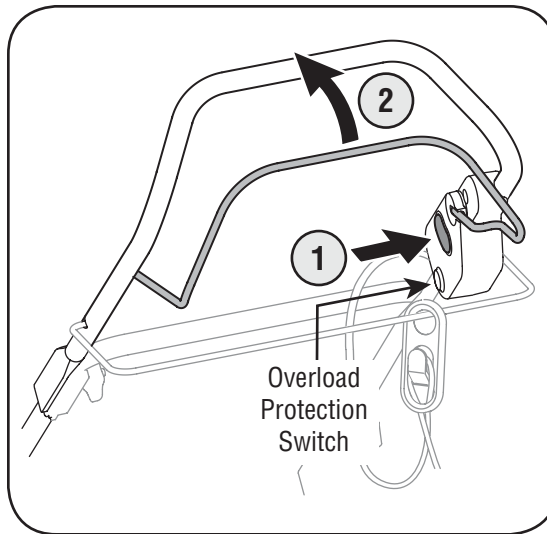

Figure 4-3
The mower is equipped with a overload protection switch, located on the motor/blade control. Refer to Figure 4-3. This overload protection switch may pop out when too much strain is placed on the motor. Refer to Maintenance Section to reset this switch.
3. Depress the (red) starter button and hold it in. See Figure 4-3.
4. While holding the starter button in, pivot the motor/blade control handle upward against the upper handle to start the motor and engage the blade. See Figure 4-3.
2. Press the overload protection switch inward to reset. See Figure 4-3 in Operation section.